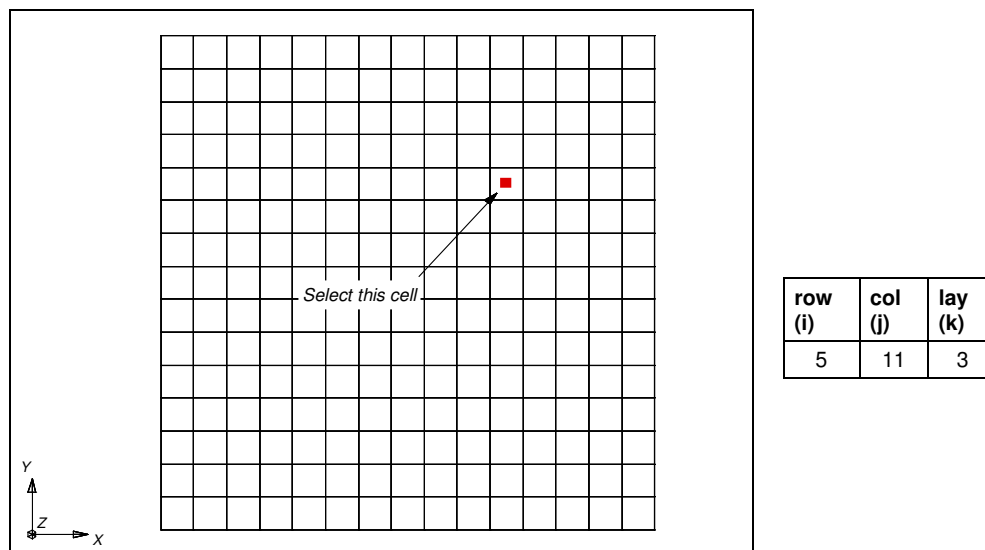

Figure 11-3 Cell to be Selected on Bottom Layer.
2. Select the cell as shown in **Figure 11-3**.